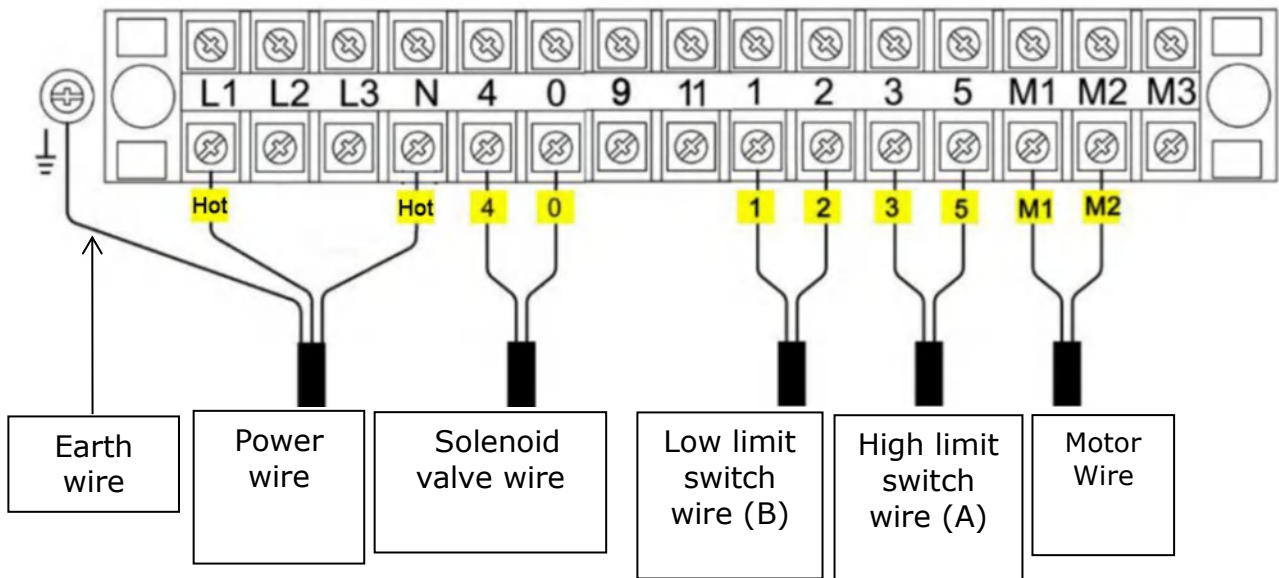

Fig.12
1. Connecting the power supply wires and limit switch wires. (Fig.12)